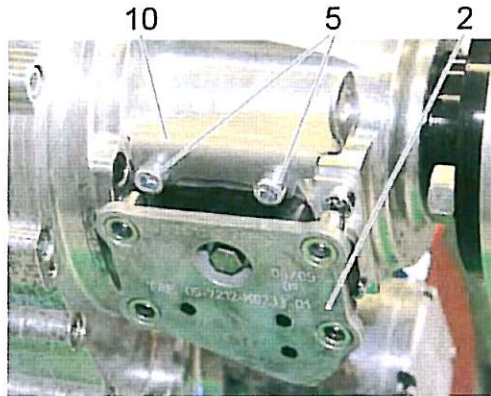

Figure 15
11. Attach the bracket (item 10) and the vibration isolator (item 2) to the adapter plate (item 1) with the help of the other two screws (item 5) to which Loctite 243 have been applied in the next to last working step. See Figure 15.